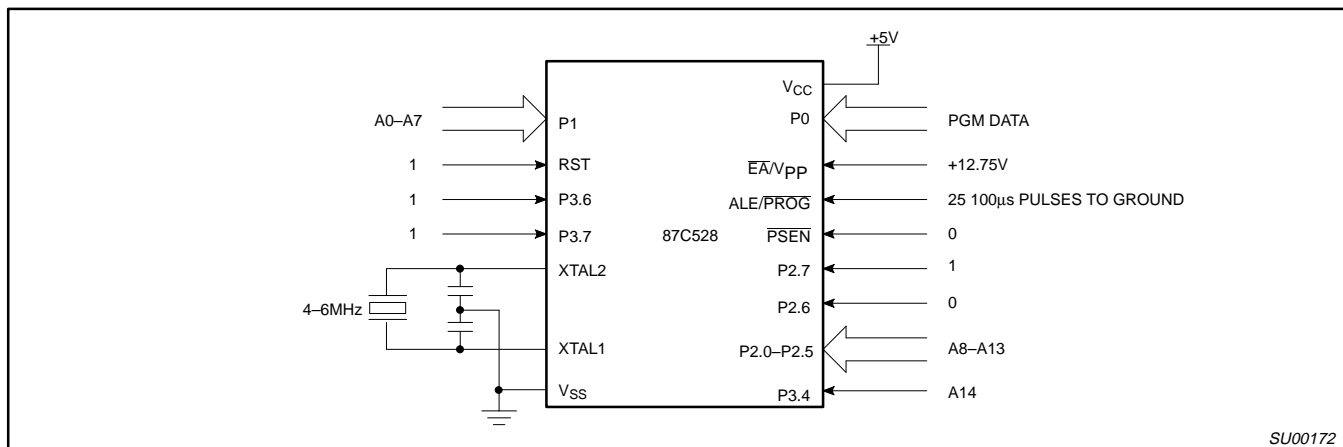
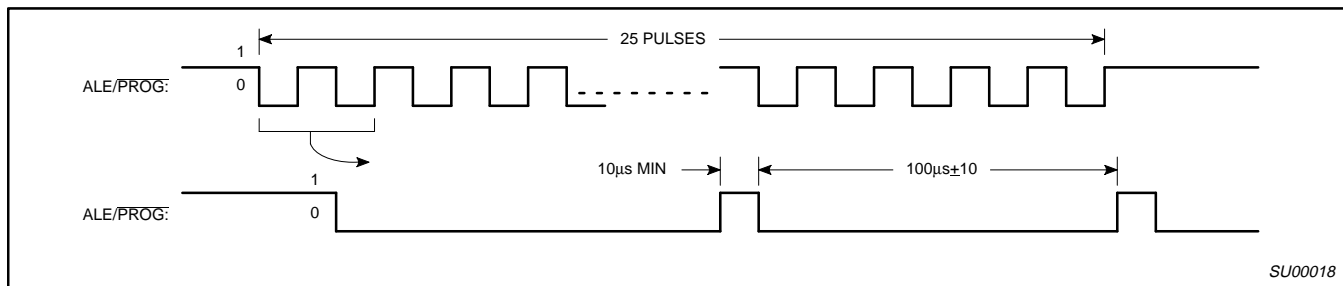
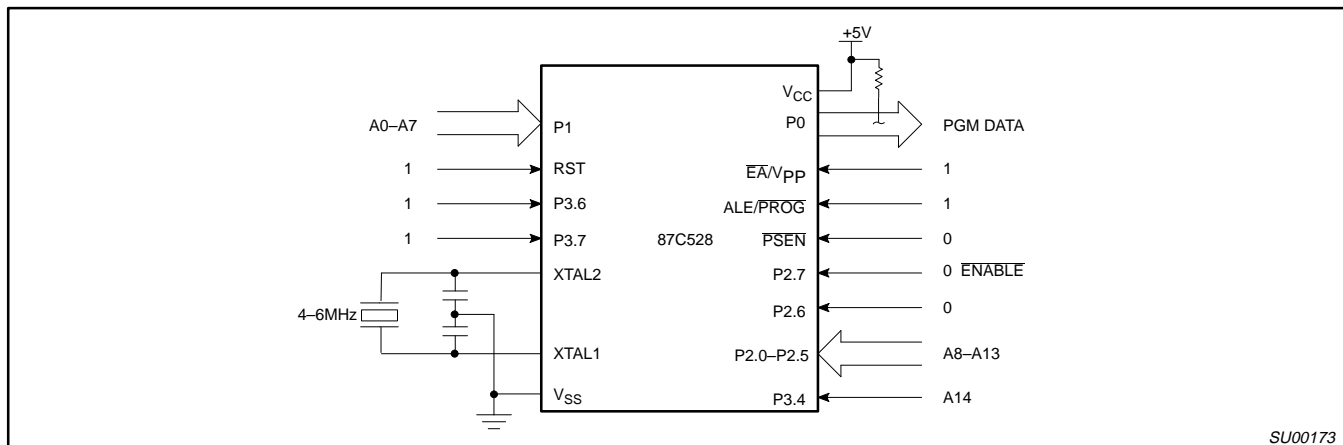

Figure 14. Programming Configuration
Figure 15. PROG Waveform
Figure 16. Program Verification
Table 6 shows the logic levels for reading the signature byte, and for programming the program memory, the encryption table, and the lock bits. The circuit configuration and waveforms for quick-pulse programming are shown in Figures 14 and 15. Figure 16 shows the circuit configuration for normal program memory verification.
The setup for microcontroller quick-pulse programming is shown in Figure 14. Note that the 87C528 is running with a 4 to 6MHz oscillator. The reason the oscillator needs to be running is that the device is executing internal address and program data transfers.
The address of the EPROM location to be programmed is applied to ports 1, 2 and 3, as shown in Figure 14. The code byte to be programmed into that location is applied to port 0. RST, \overline{PSEN} and pins of ports 2 and 3 specified in Table 6 are held at the 'Program Code Data' levels indicated in Table 6. The ALE/PROG is pulsed low 25 times as shown in Figure 15.
memory locations to be read is applied to ports 1, 2 and 3 as shown in Figure 16. The other pins are held at the 'Verify Code Data' levels indicated in Table 6. The contents of the address location will be emitted on port 0. External pull ups are required on port 0 for this operation.
* FOR PROGRAMMING VERIFICATION SEE FIGURE 14.
FOR VERIFICATION CONDITIONS SEE FIGURE 16.